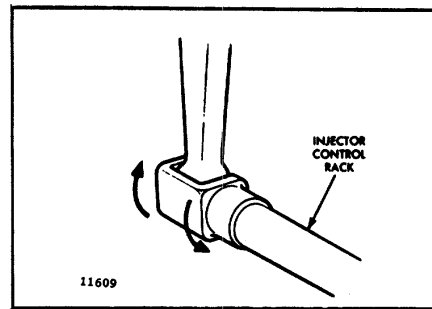
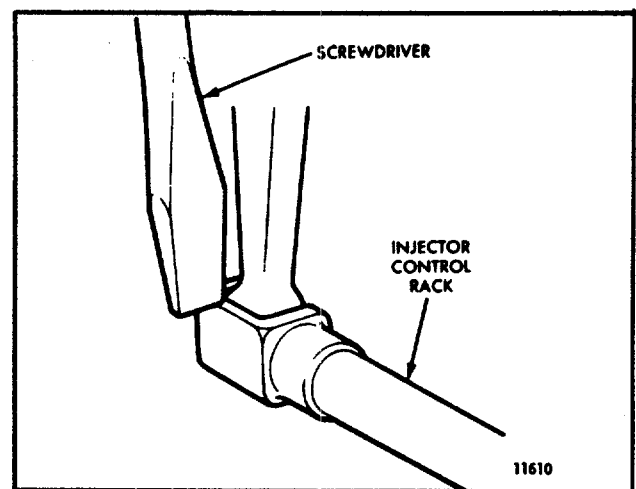

Fig. 3. - Checking Rotating Movement of the Injector Control Rack
Fig. 4. - Checking Injector Control Rack "Spring".
7. To be sure of the proper rack adjustment, hold the speed control lever in the maximum speed position and press down on the injector rack with a screwdriver or finger tip and note the "rotating" movement of the injector control rack (Fig. 3). Hold the speed control lever in the maximum speed position and, using a screwdriver, press downward on the injector control rack. The rack should tilt downward and when the pressure of the screwdriver is released, the control rack should "spring" back upward (Fig. 4).